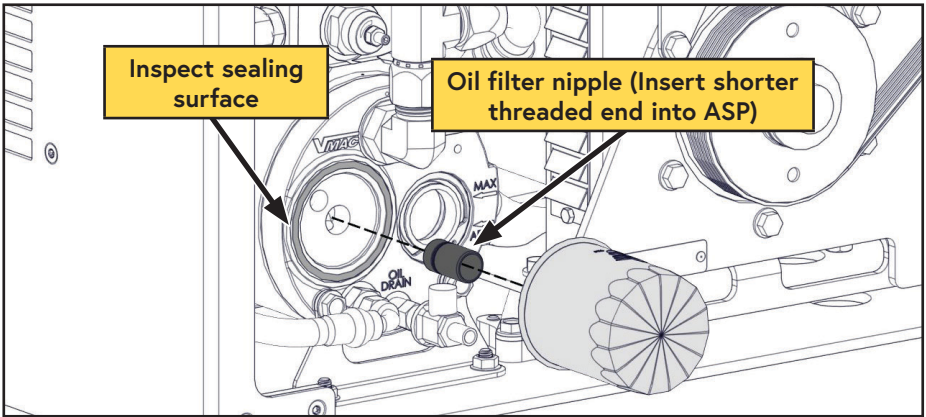

Figure 28 — Compressor oil filter
- ☐ *If the nipple came out with the oil filter, remove it from the filter, being careful to avoid damaging the threads (Figure 28).
- ☐ *To reinstall the nipple, thoroughly clean the threads and apply Loctite 242 (blue) to the end with the short threads and replace it in the ASP (Figure 28).
- ☐ Clean the gasket sealing surface on the front of the ASP and inspect it for damage. The surface must be free of old gasket material, and smooth, to ensure a good seal (Figure 28).